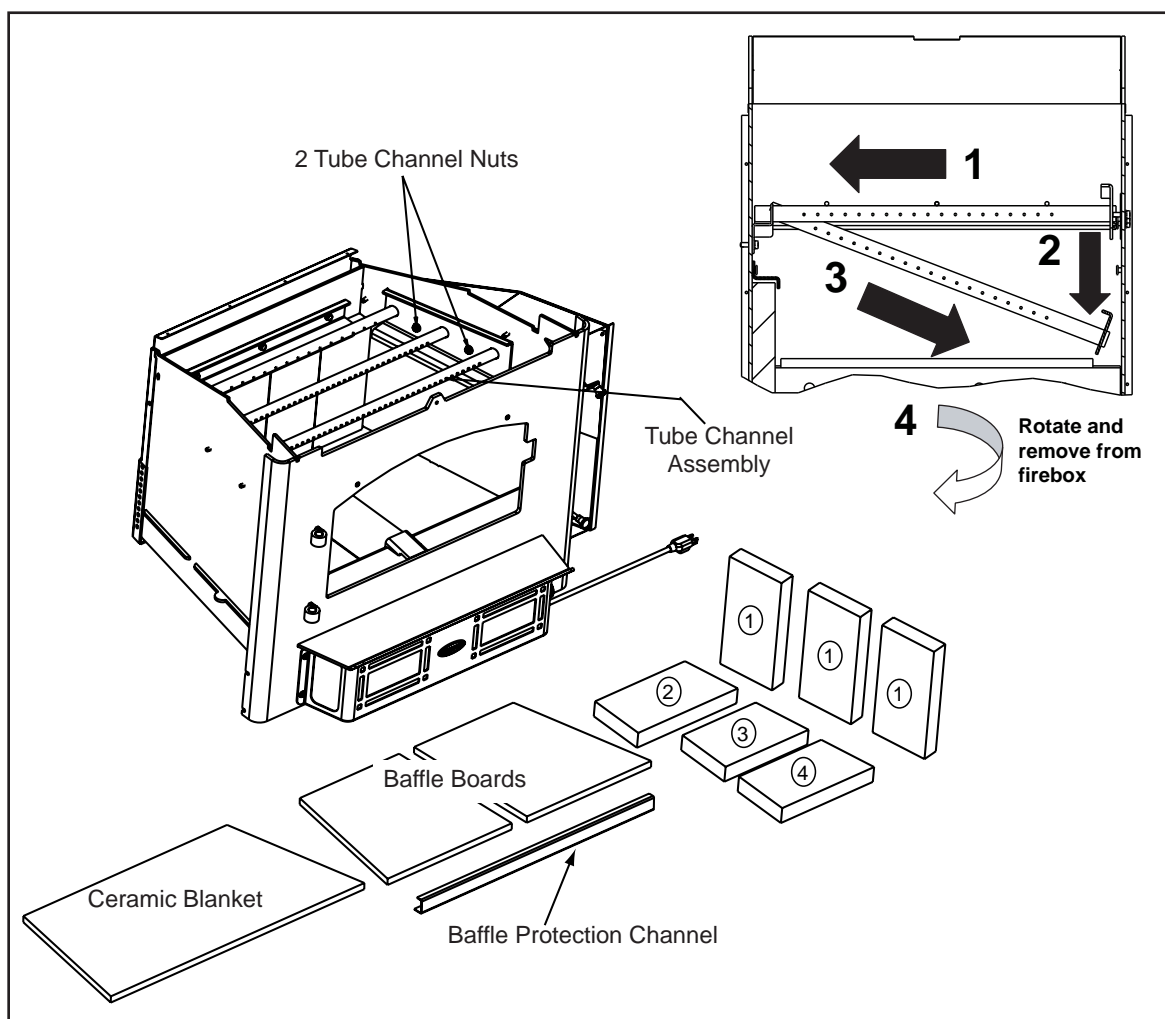

Figure 24.3
4. Slide the tube channel assembly all the way to left until it is off the threads. Drop the right side down, then slide the assembly back to right. **Figure 24.3.**